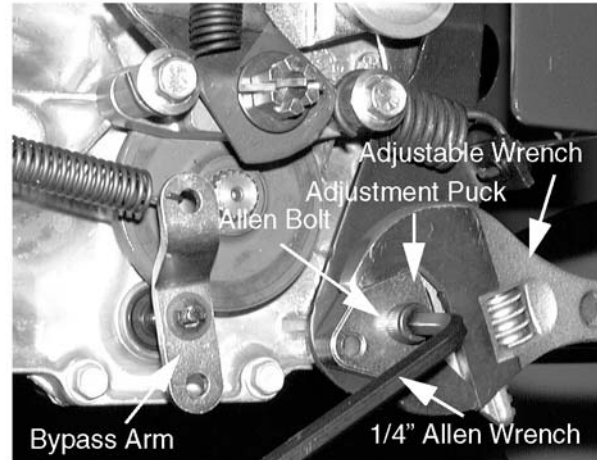

Figure 6-81.
1. Make certain the IHT is in the operating mode by checking that the bypass is disengaged. See Figure 6-81.